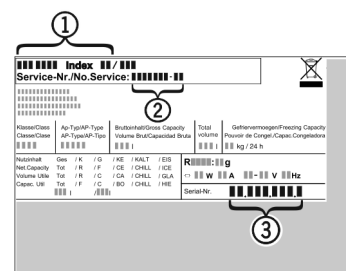

Fig. 15
- ▶ Read the appliance designation *Fig. 15 (1)*, service No. *Fig. 15 (2)* and serial No. *Fig. 15 (3)* off the model plate located inside the appliance on the left-hand side.
- ▶ Notify the customer service, specifying the fault, appliance designation *Fig. 15 (1)*, service No. *Fig. 15 (2)* and serial No. *Fig. 15 (3)*.